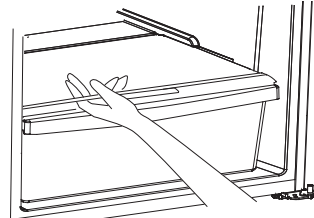

Fig. 12
1. Carefully grasp the crisper cover and slide out to remove. (Fig. 12)